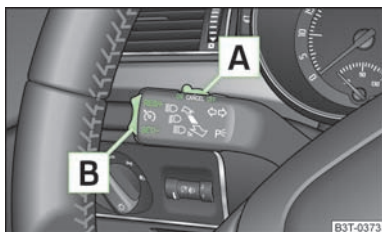

Fig. 124
- Turn the switch **A** » Fig. 124 into the **ON** position.
- Press the rocker button **B** » Fig. 124 into the **RES** position.
The cruise control system is temporarily switched off by pressing the switch **A** » Fig. 124 into the spring-tensioned position **CANCEL** or by depressing the brake or clutch pedal.
➤ Turn the switch **A** » Fig. 124 into the **OFF** position.